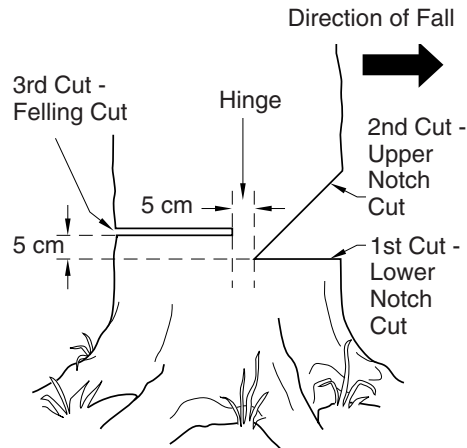

Figure 13 - Felling A Tree
A properly placed felling notch will determine direction tree will fall. Place felling notch on side of tree in direction you want tree to fall (see Figure 13). Follow directions below to create a felling notch.
1. Make lower notch cut as close to ground as possible. Hold saw so guide bar is horizontal. Cut 1/3 the diameter of tree trunk (see Figure 13). **Note:** Always make this horizontal lower notch cut first. If you make this cut second, tree can pinch chain or guide bar.
Example: If lower notch cut is 20 centimeters deep, start upper notch cut 20 centimeters above it. Cut downward at 45° angle. The upper notch cut should meet end of lower notch cut (see Figure 13).
1. Make felling cut five centimeters higher than lower notch cut and on opposite side of tree (see Figure 13). Keep felling cut parallel to lower notch cut.
WARNING: Do not cut all the way through tree. Leave about five centimeters of tree diameter uncut directly behind felling notch (see Figure 13). This uncut portion acts as a hinge. The hinge helps keep tree from twisting and falling in wrong direction.